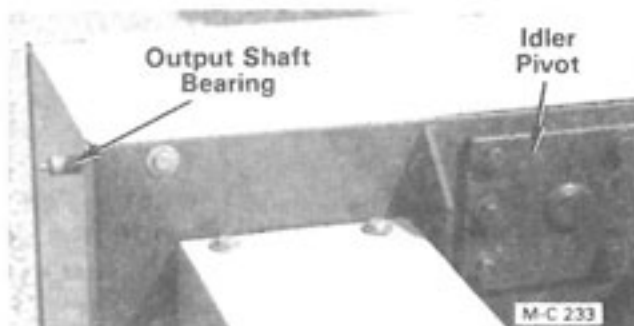

Figure 16
3. Output shaft bearing, see Figure 16.